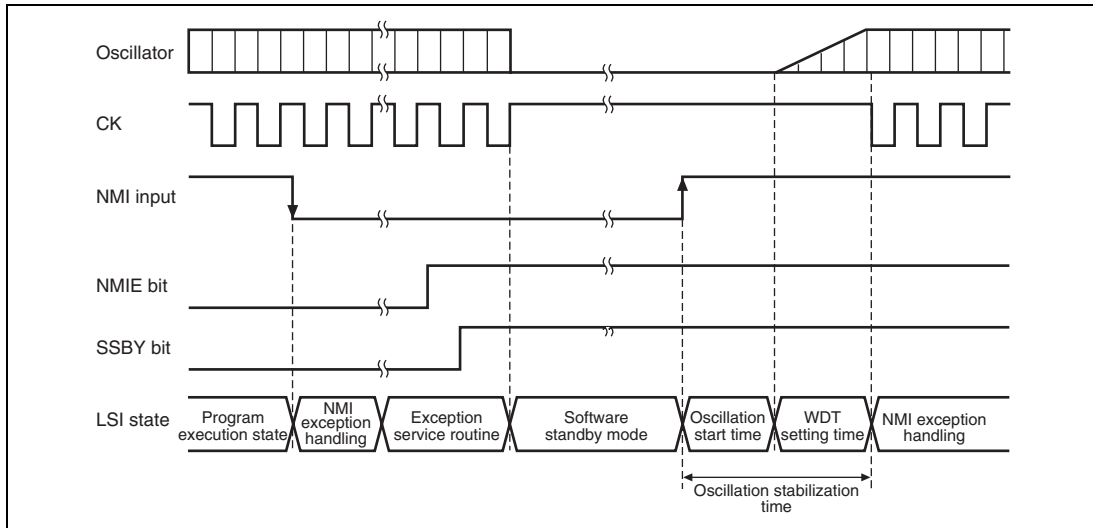

**Figure 24.1 NMI Timing in Software Standby Mode (Application Example)**
**Software Standby Mode Application Example:** Figure 24.1 shows an example in which a transition is made to software standby mode at the falling edge of the NMI pin, and software standby mode is cleared at a rising edge of the NMI pin.